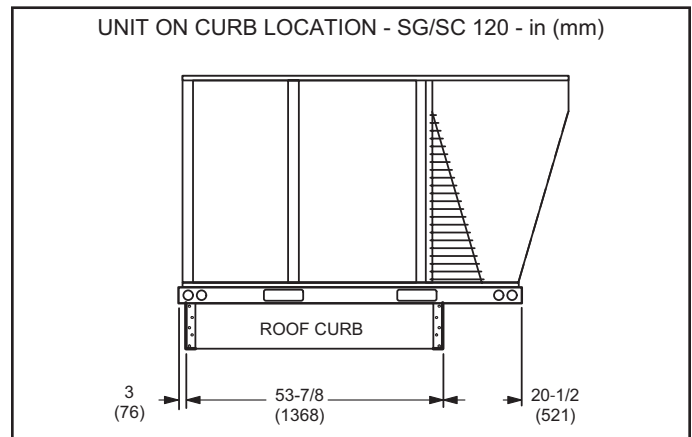

FIGURE 2
- 6 - 120 units will overhang the roof mounting frame as shown in FIGURE 2.